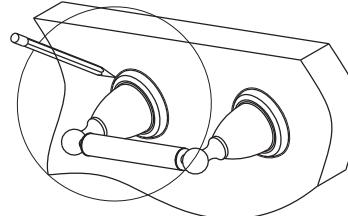

Fig. 1
- Step 1. Locate where you would like to install the toilet paper holder. Place a base onto the wall and trace around it with a pencil (fig 1).